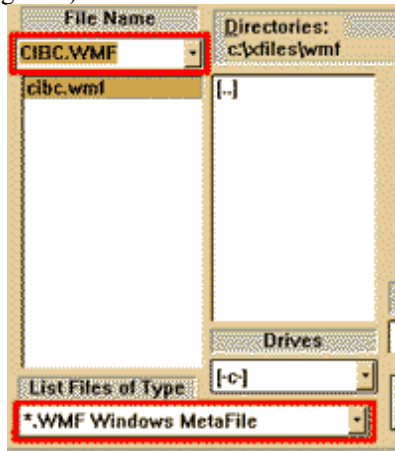

Figure 4
- 6. From the Menu Bar, click **File | To File Import...** Navigate the file you just saved; be sure the *List Files of Type* listbox shows ***.WMF Windows MetaFile** (see figure 4)